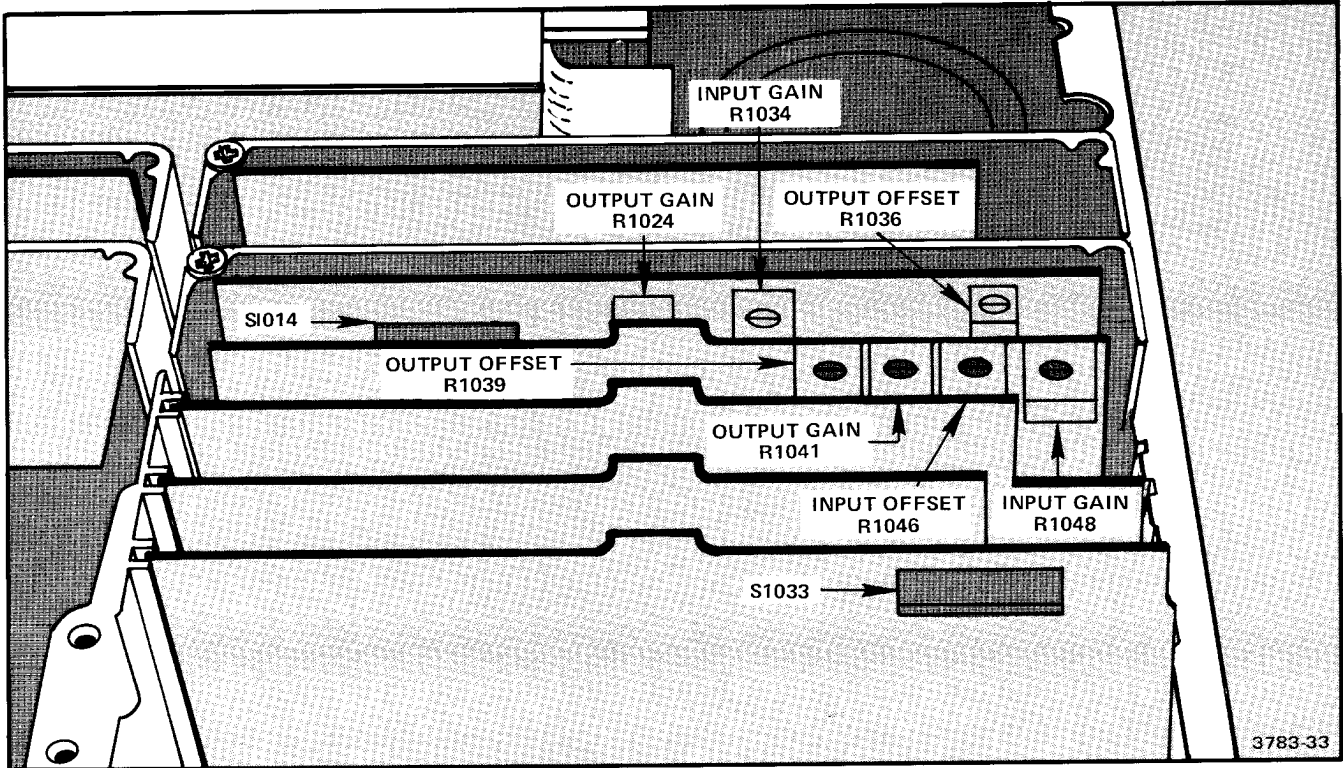

Fig. 3-47A. Digital Storage adjustment locations (SN B043115 & above).
1) adjust Output Offset, R1039 (Fig. 3-47A), so the left edge of the cursor is at the left edge of the crt (about 0.25 division over-span from the left graticule line);
2) adjust Output Gain, R1041 (Fig. 3-47A) so the right edge of the cursor is at the right edge of the crt;
3) alternately switch VIEW A on and off while adjusting Input Offset, R1046 (Fig. 3-47A), so the storage signal at the left edge of the screen tracks with the non-stored signal;
4) alternately switch VIEW A on and off while adjusting Input Gain, R1048 (Fig. 3-47A), so the storage signal at the right edge tracks with the non-store signal.
f. Adjust the following (Fig. 3-47A) for SN B043115 and above to match the step waveform to the graticule: